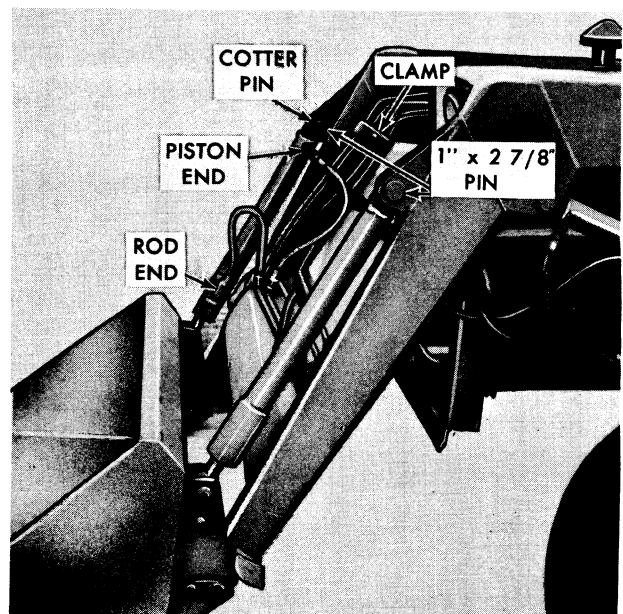

Figure 24
1. Install the 1" X 2-7/8" pins through the loader arms and bucket cylinder ends as shown in Figure 24 and secure the pins with 1/4" X 1-1/2" cotter pins.
2. Attach the loader hydraulic tubes, in position, to the loader lift arms as shown in Figure 24, with the clamps provided. Use the 3/8" X 24 X 1" bolts provided to secure the clamps to the lift arms.